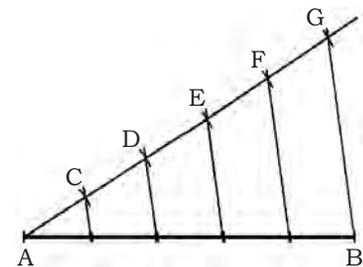

Fig. 1.13: Dividing a given line in equal parts
- Using set squares draw parallel lines to GB from all the points (points F-C) as shown in Fig. 1.13.